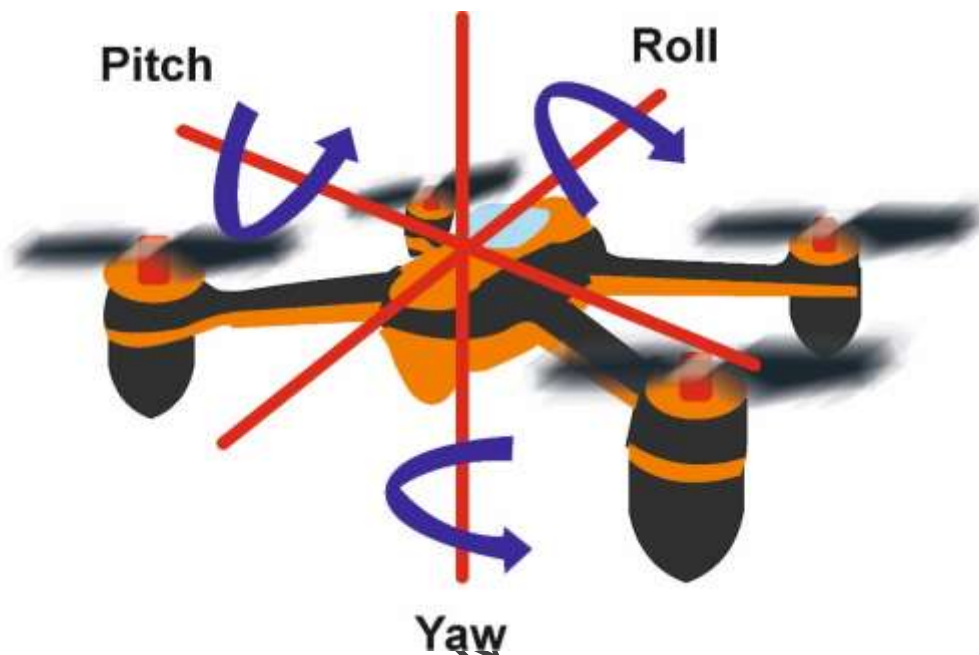

Figure 4.4 Aerodynamic motions of drone
- iii. **Yaw:** Yaw in multirotor drone refers to the rotation around the vertical axis, allowing the drone to change its orientation or direction horizontally. Rotor or propeller speed is controlled by varying the clockwise or counter clockwise rotation of the rotors. During flight, this rotational movement is essential for steering, changing heading, and enhancing manoeuvrability (**Figure 4.4**).